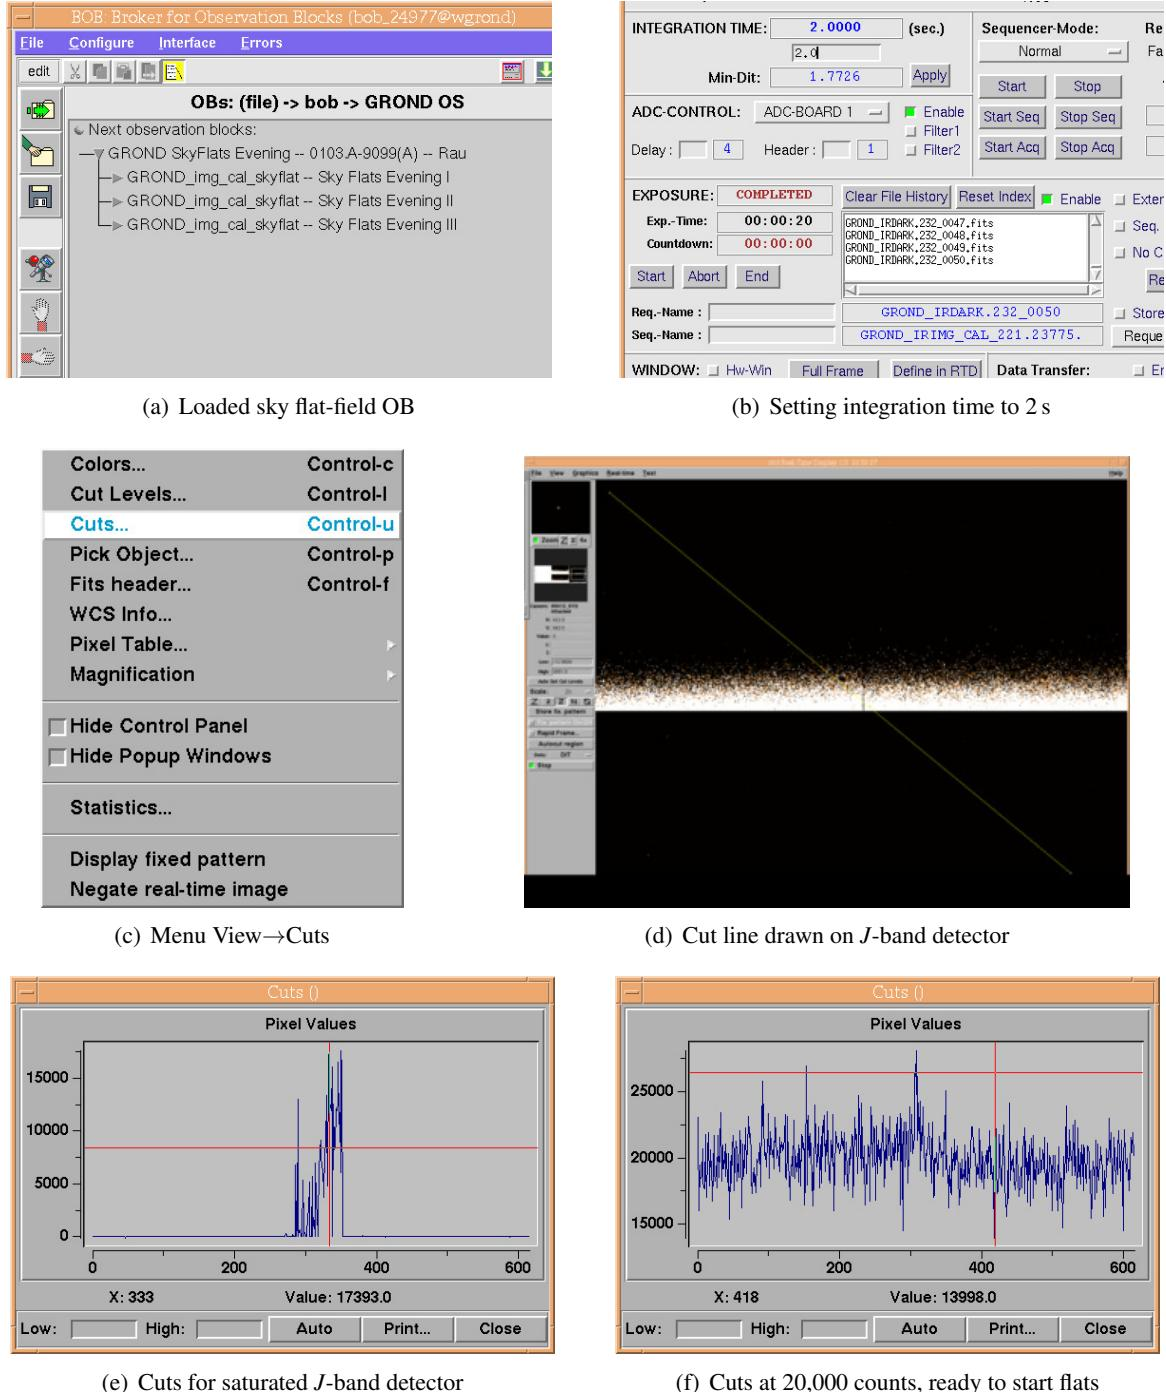

Figure 5.3: GROND evening sky flat fields.
- G. Get **sky flat fields OB** ready (Fig. 5.3(a), p. 52)
- H2. Set the IR integration time to 2 s (Fig. 5.3(b), p. 52).
- Use window menu View→Cuts..., then click OK on the pop-up (Figures 5.3(c)–5.3(d)).
- H4. Wait for the cuts to look flat and with about 20 000 counts. (Figures 5.3(e)–5.3(f))